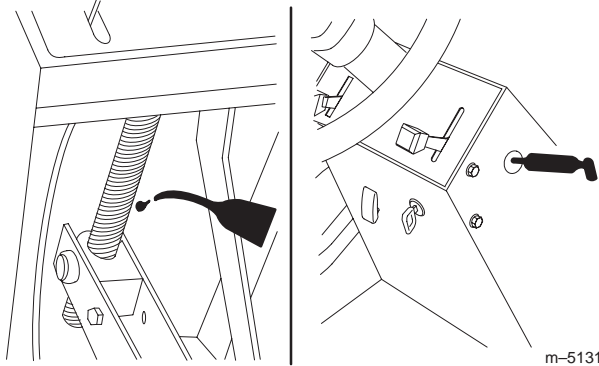

Figure 21
- Lubricate the traction pedal bushings and steering shaft with a few drops of SAE 10W-30 oil or dry spray lube (Fig. 21).